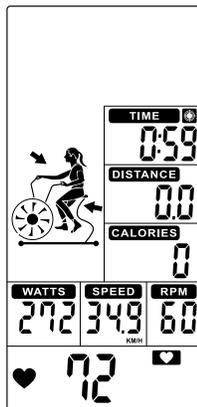

Figure 40
3. The preset **TIME** value will begin counting down. During this time, **DISTANCE, CALORIES, WATTS, SPEED, and RPM** will start counting up (see Figure 40).